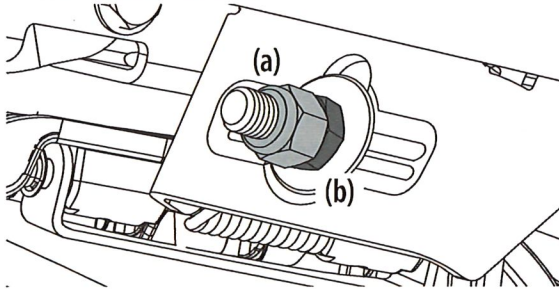

Figure 31
5. To **raise** the front of the deck, remove the end cap, loosen the outer jam nut (a) then tighten (thread inward) the inner nut (b) against the front hanger bracket. See Figure 31. When proper adjustment is achieved, re-tighten the outer jam nut (a) and replace the end cap.
6. To **lower** the front of the deck, remove the end cap, loosen the outer jam nut (a) then loosen (thread outward) the inner nut (b), away from the front hanger bracket. See Figure 31. When proper adjustment is achieved, re-tighten the outer jam nut (a) to 57 ft-lbs (77 N-m) and replace the end cap.